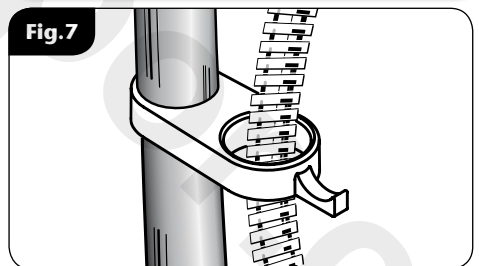

Fig.7
- Feed the flexible hose through the opening in the hose retainer (*The hose retainer **MUST** be used to comply with Water Regulations.* (fig.7)).